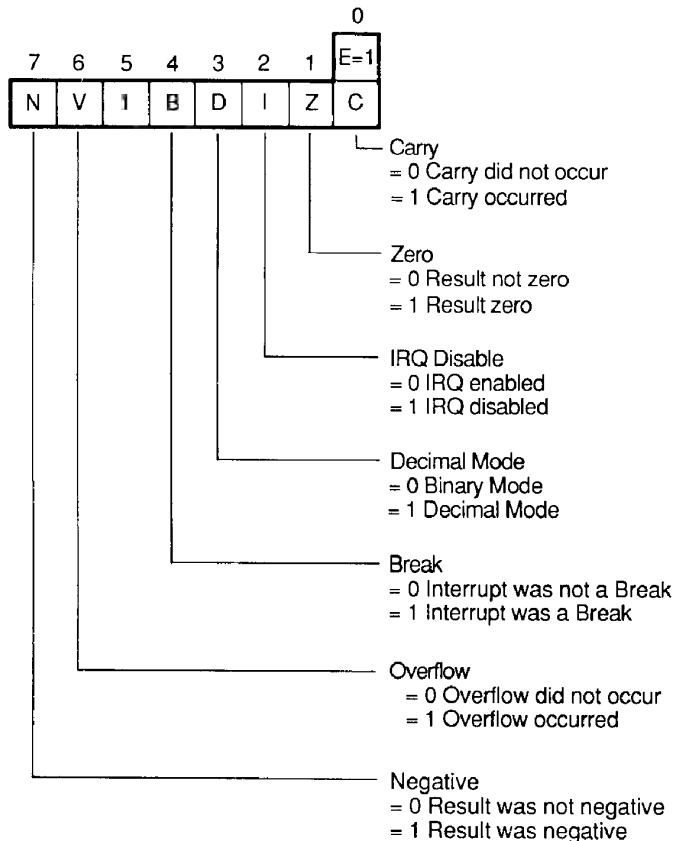
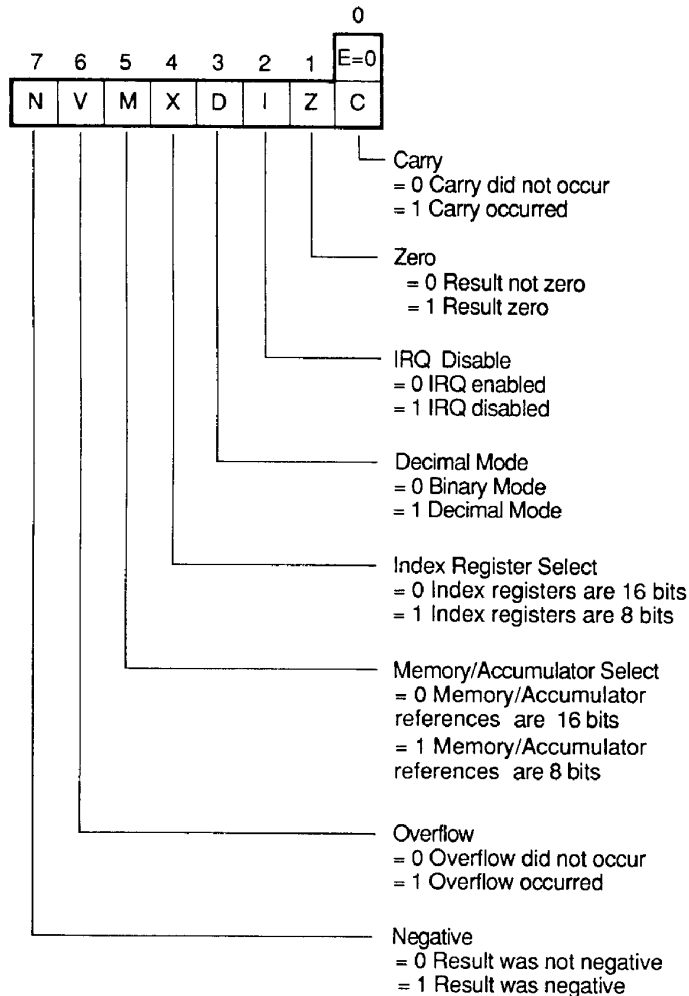

Figure 1-2
Figure 1-3
The 8-bit processor status (P) register contains one-bit indicators. Some of these bits are *status flags* that reflect the result of a previous instruction (generally, the preceding instruction), others are *mode control bits* that determine how the 65816 operates. The P register can take either of two forms, depending on whether the 816 is operating in emulation mode (Figure 1-2) or native mode (Figure 1-3).